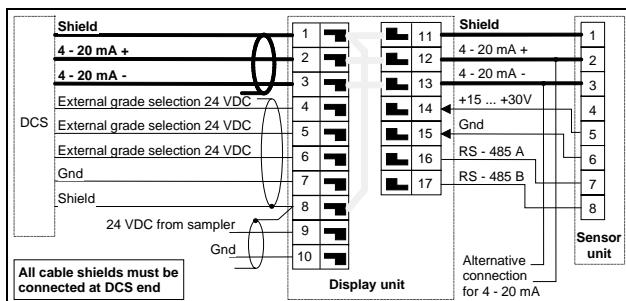

Figure 4. Wiring diagram.
- ❑ Install the interconnect cable into the display unit (fig. 4).
- ❑ Install 4 – 20 mA signal cable between DCS and the display unit (fig. 4). The display unit works and KC/3 is ready for configuration.